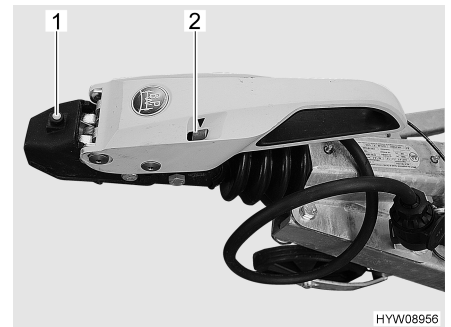

Fig. 2 Wear indicator and coupling check
- Conduct a visual inspection: If the stabiliser is coupled correctly, the green pin (Fig. 2,1) of the indicator will be visible.
- Check the position of the wear indicator (Fig. 2,2) of the stabilising device: